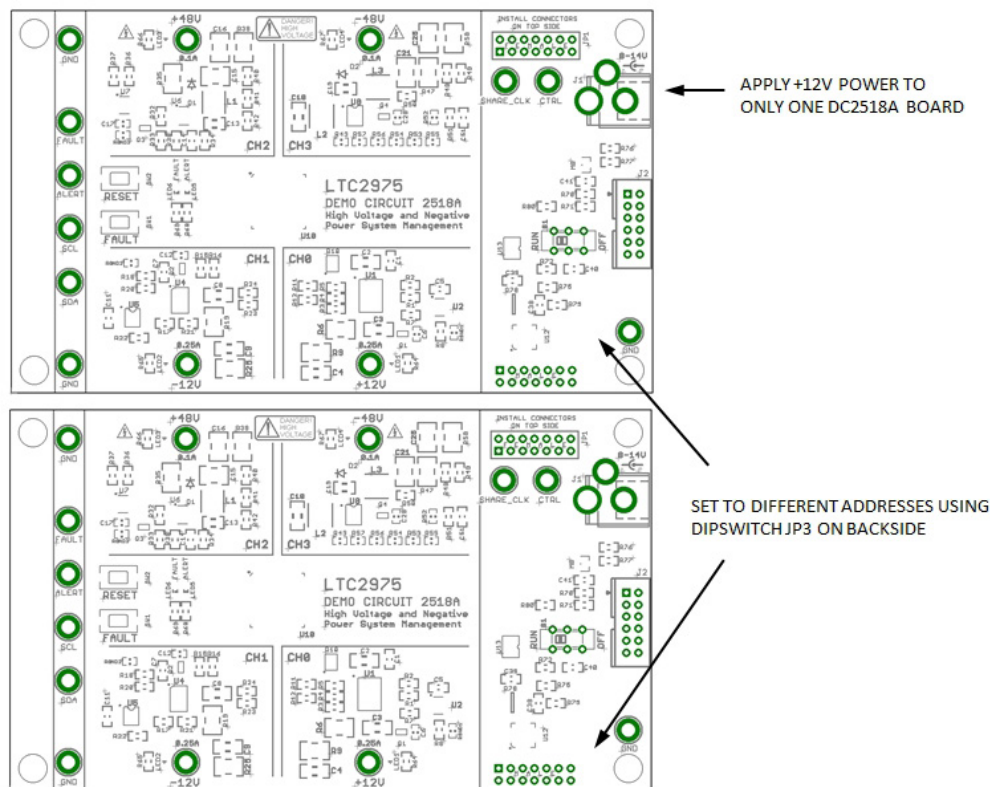

Figure 22. Array of Multiple Board Sets
3. Plug in the +12V  $V_{IN}$  power into one of the boards as shown in Figure 22. Only one +12V power source is allowed.